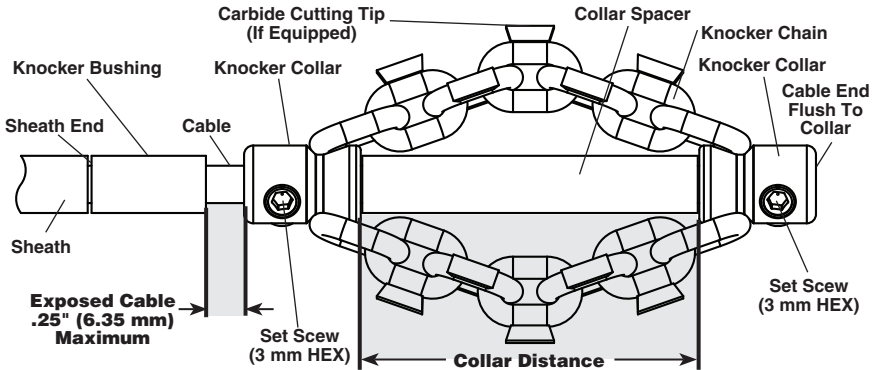

Figure 10 – Chain Knocker Installation/Adjustment
2. *Figure 10* shows a schematic of proper chain knocker installation and adjustment. There are two key points when installing/adjusting chain knockers.
- Test fit the chain knocker, knocker bushing and collar spacer on the cable as shown in *Figure 10*. Chains should be straight – do not assemble with chains twisted. To prevent excessive cable end wear, cable end should be flush with the end of the collar.
- With the chain knocker correctly installed on the cable as shown in *Figure 10*, use the supplied hex wrench to securely tighten the collar set screws. Place set screw tip against cable, then tighten an ad-